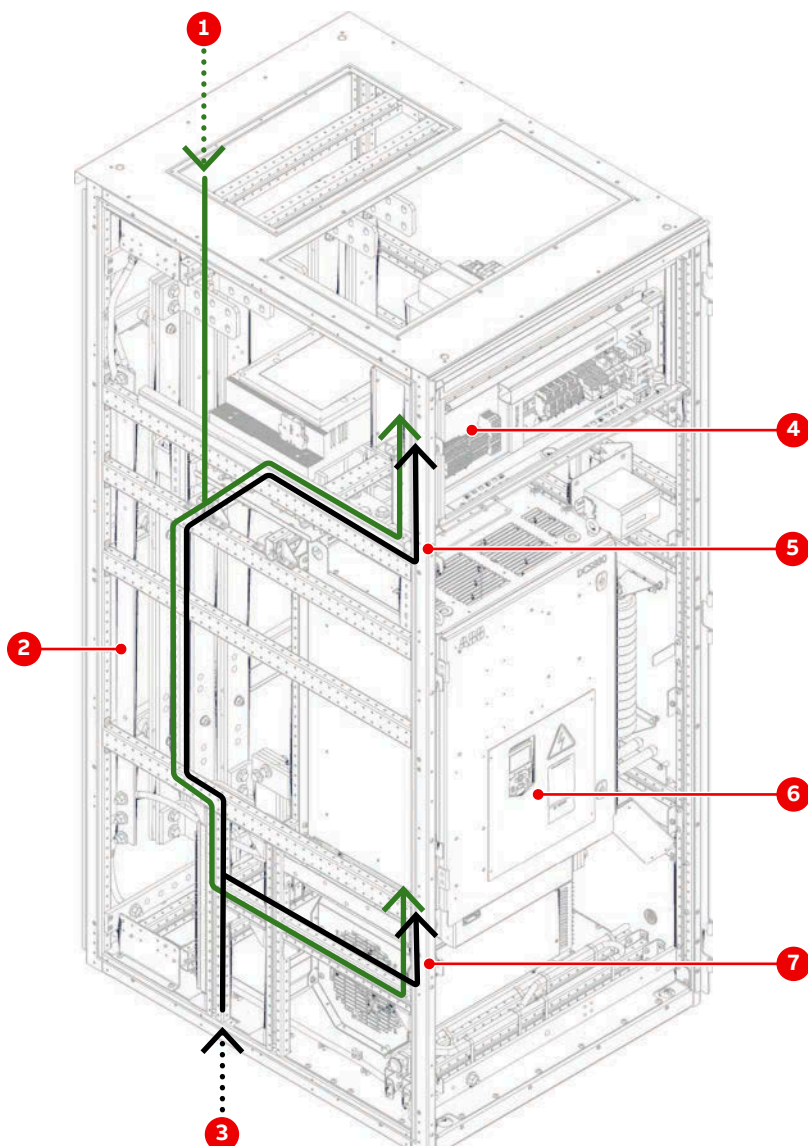

Figure 6–41 Cable routing example in an EXU cabinet with an ED7Y type DCS800 converter
3. Route the cables through the designated cable ducts as illustrated in Fig. 6–41.